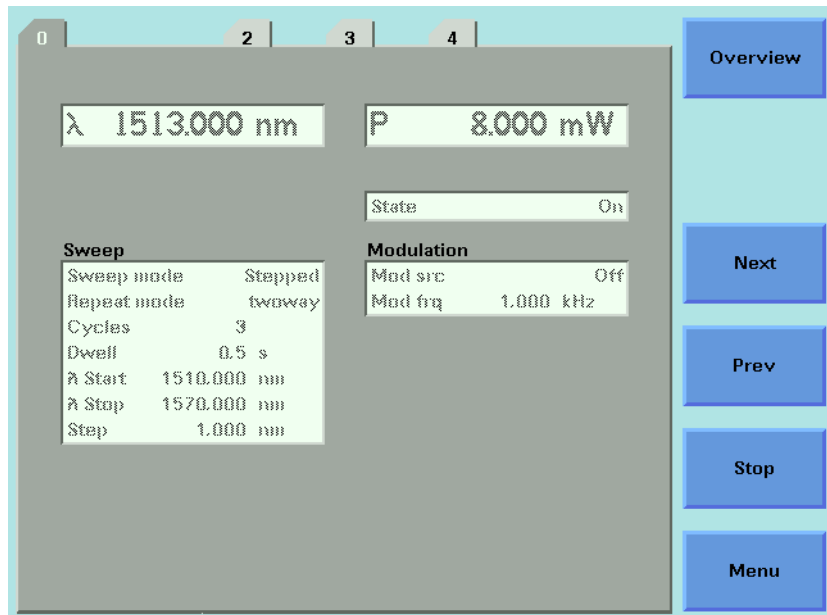

Figure 74 Performing a Manual Sweep
**6** Press [Run Swp] to start the sweep. The screen in Figure 74 then appears.